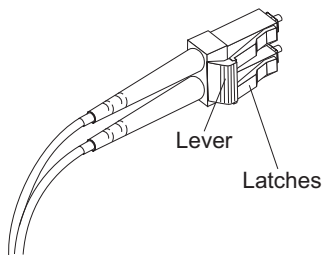

Figure 23. LC-LC fibre-channel cable lever and latches
1. On the end of the LC-LC cable that connects into the SFP module or host bus adapter, press down and hold the lever to release the latches, as shown in Figure 23.